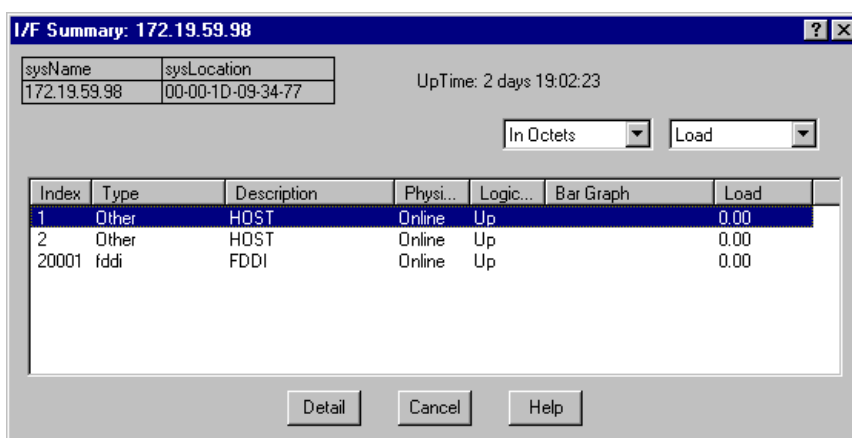

Figure 2-7. I/F Summary Window
2. Click again to select **I/F Summary**, and release. The I/F Summary window, Figure 2-7, will appear.